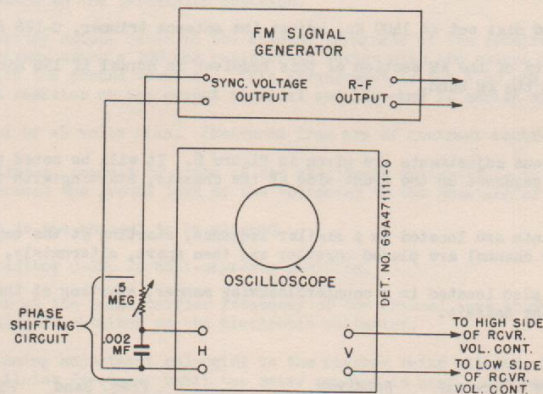

FIGURE 7. SIGNAL GENERATOR AND OSCILLOSCOPE CONNECTIONS
3. Connect the FM generator synchronizing voltage output terminals, through a phase shifting network to the horizontal amplifier terminals of the oscilloscope. See Figure 7. Other values of resistance and capacitance may be required, depending upon the oscilloscope used.